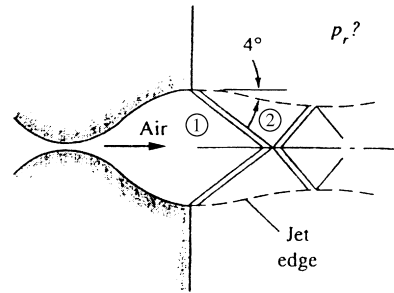

Fig. P9.138
**9.138** The supersonic nozzle of Fig. P9.138 is *overexpanded* (case G of Fig. 9.12) with  $A_e/A_t = 3.0$  and a stagnation pressure of 350 kPa. If the jet edge makes a  $4^\circ$  angle with the nozzle centerline, what is the back pressure  $p_r$  in kPa?